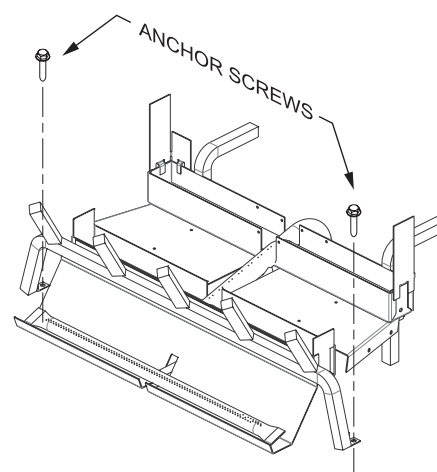

Figure 11
3. Anchor the grate to the fireplace/firebox floor using the screws provided. Refer to Figure 11.